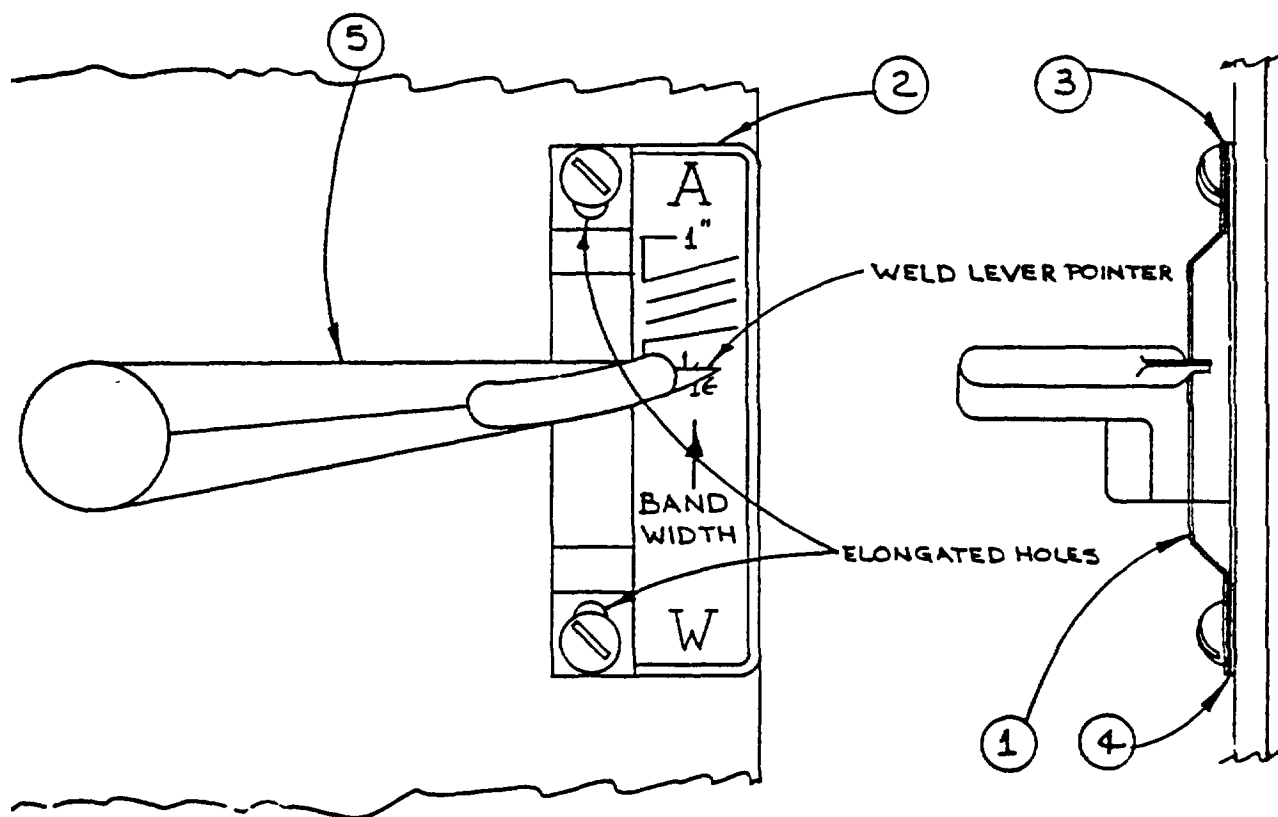

FIG. 5
The weld lever drag spring (item 1, Fig. 5) serves two functions: First, the upper corner acts as a detent to locate the movable jaw for annealing band; and second, the force exerted by the spring against the weld lever provides the frictional drag to hold the lever at any of the several required initial jaw gap settings for welding. This allows the operator to clamp a blade in the welder or adjust the upset force selector without disturbing jaw gap setting.
The spring is mounted on the band width escutcheon, (item 2, Fig. 5). (Both are secured by two screws.) It is adjusted by shimming between the escutcheon and the spring. Shim as required to obtain both objectives. Shims under either top or bottom screws will affect function, however, the top shim (item 3, Fig. 5) usually is used to establish detent, and the bottom shim (item 4, Fig. 5) to establish frictional drag.
4. Move the escutcheon (note elongated holes Fig. 5) so the weld lever pointer indicates the narrowest position (the bottom line on the escutcheon that also corresponds with 1/16" band - note Fig. 5) and then tighten the two screws.